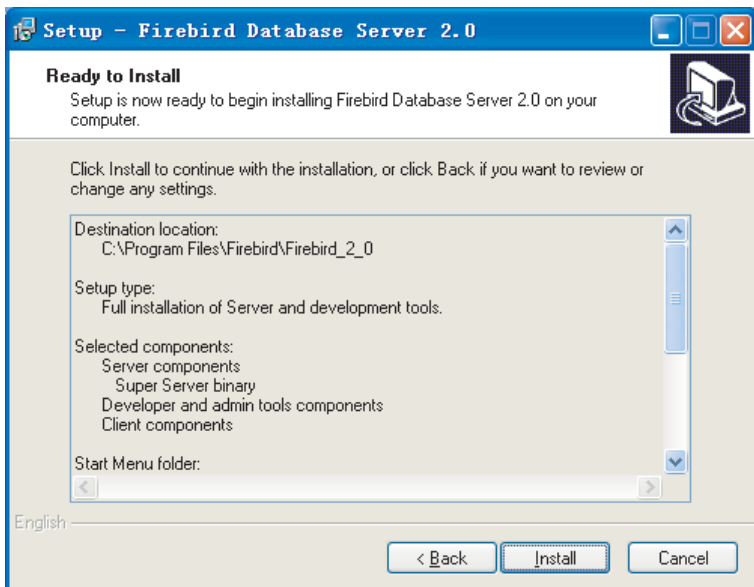

Fig. 2-10
9) Installation window as Fig.2-10, click “Install” to continue: